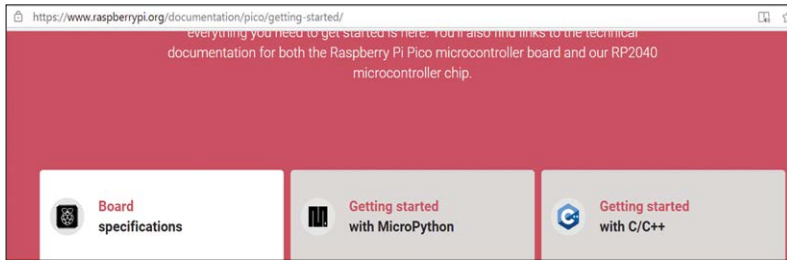

Figure 2.17: Displayed message.
- You should see the message **Welcome to your Raspberry Pi Pico** displayed in a web page (Figure 2.17)